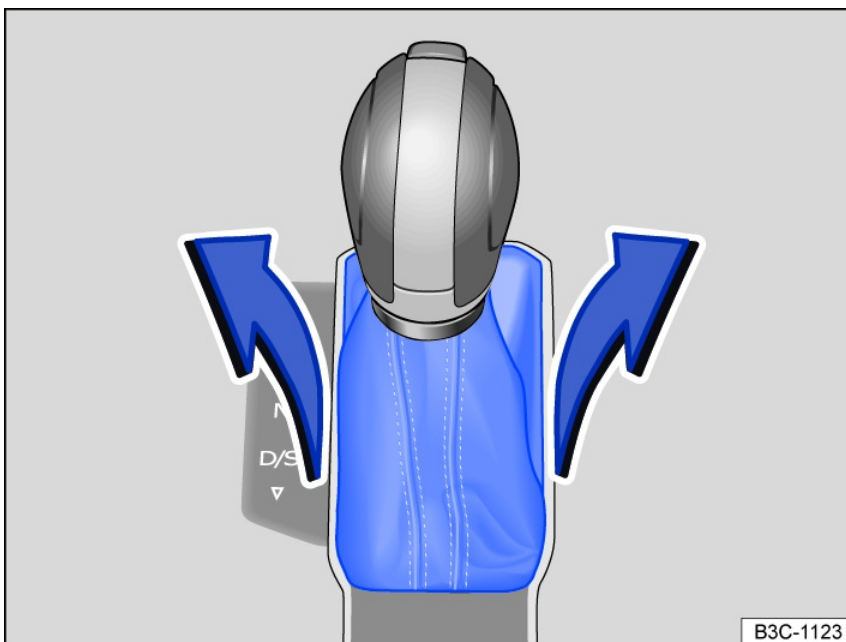

Fig. 114 Remove the cover on the shift gate.
3. Pull the cover near the selector lever boot upward carefully with the wires connected *fig. 114*.